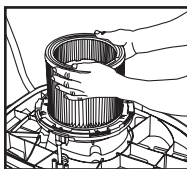

FIGURE 22
29. Place the new cartridge filter and retainer into place. **FIGURE 22.**